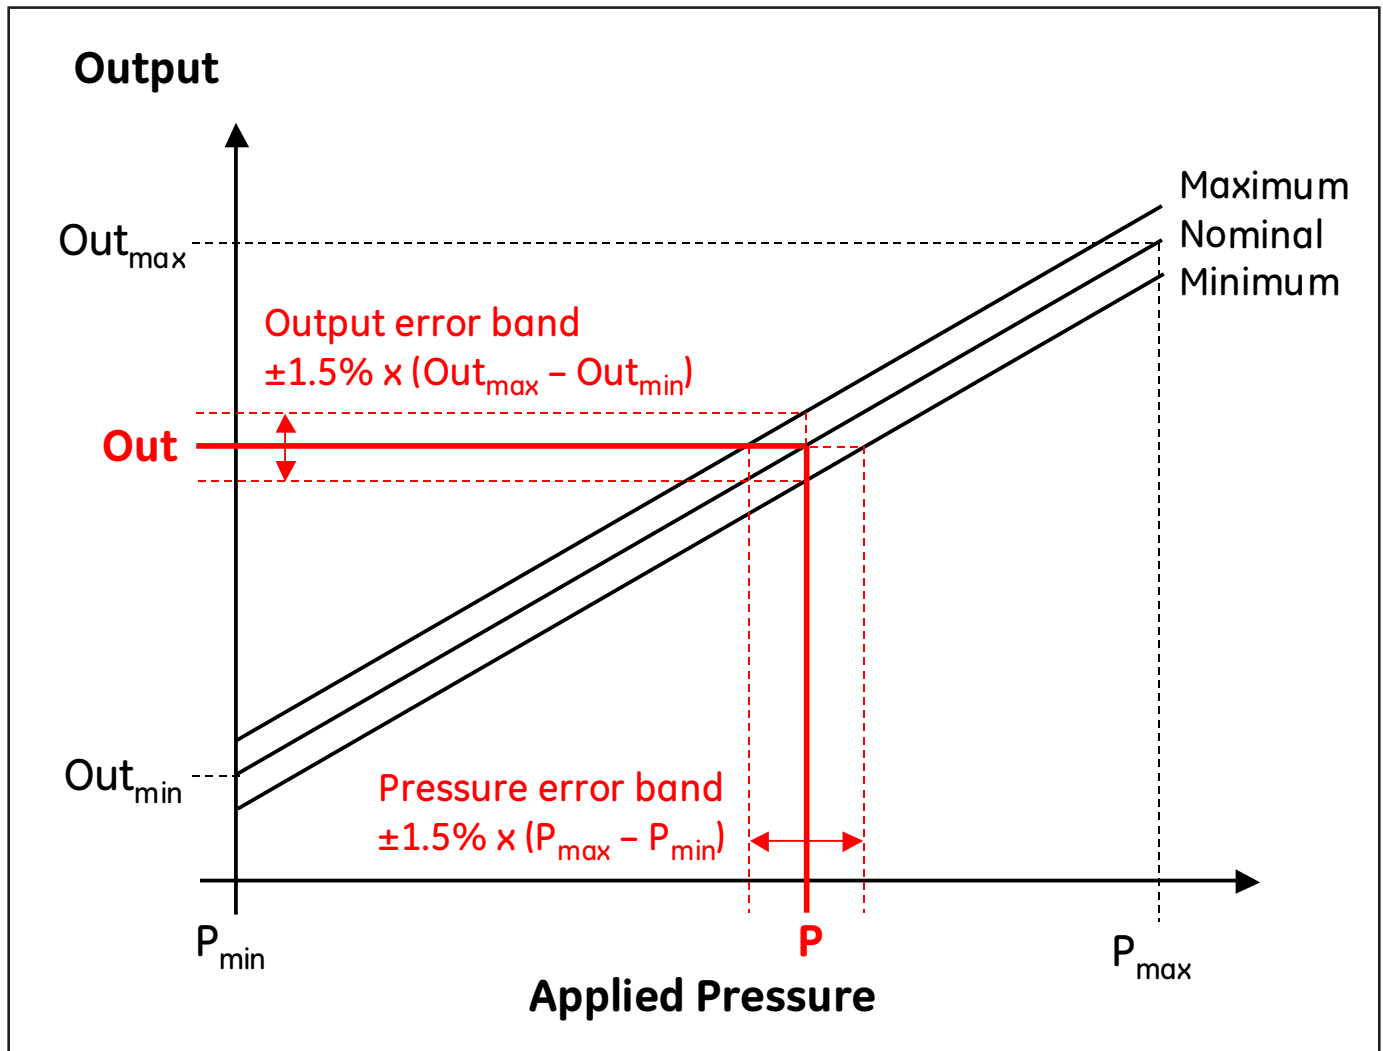

Figure 2: Accuracy of Calibrated NPA Types
The measurement accuracy of calibrated NPA types is defined in terms of $\pm\%$ of full scale (FS) over a specified compensated temperature range. Standard parts are specified to be $\pm 1.5\%$. This accuracy figure is a total error band and includes all errors due to offset, span, linearity and temperature, as illustrated in Figure 2 below.